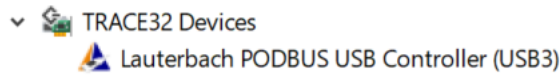

Figure 8. Lauterbach equipment in Device Manager
2. Connect the  $\mu$ Trace for Cortex-M debugger to the PC through the USB cable, and then power on the debugger with a 5 V power adapter. Open **Device Manager** on the PC. Lauterbach equipment appears in Trace32 Devices as shown on Figure 8. If not, check the connection.